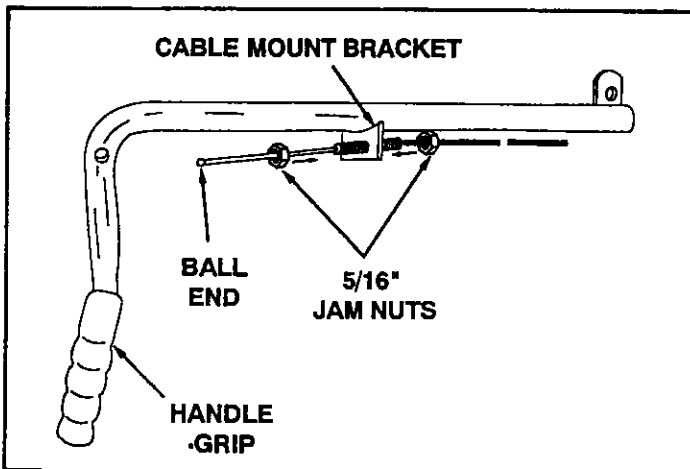

FIGURE 16 (Right Hand Side View)
- Screw one 5/16" jam nut approximately 3/4" onto the loose end of the control cable. Pass the cable around the outside of the lift handle rod and insert the threaded cable end through the cable mount bracket on the lift handle tube. Secure the cable with another 5/16" jam nut. **Tighten.** See figure 16.